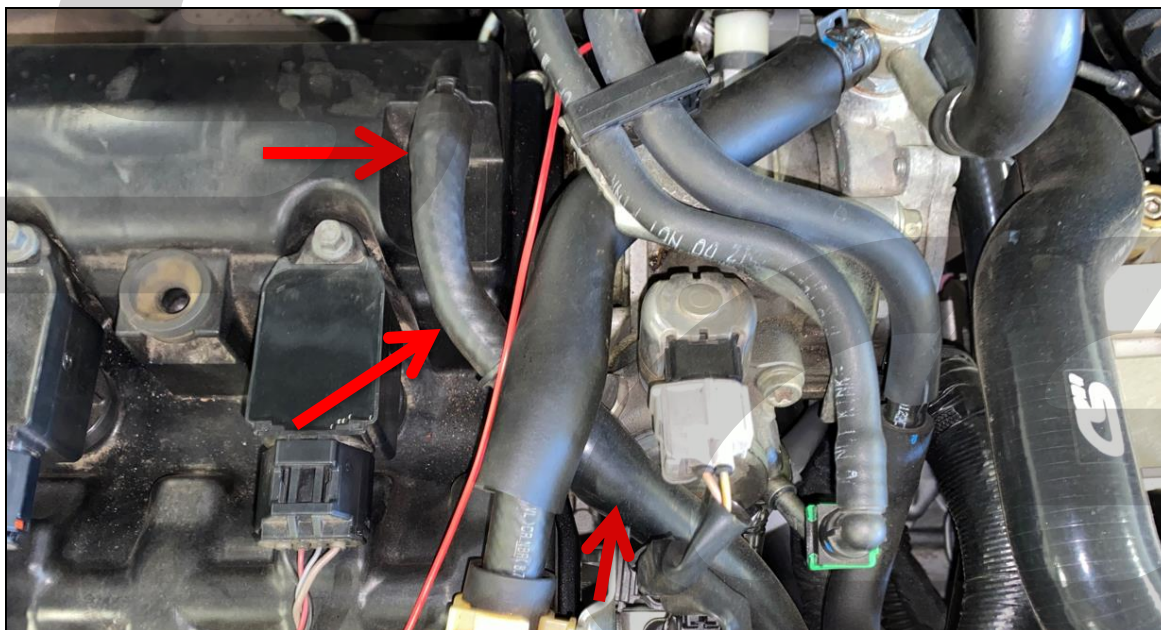

Figure 5e
- l) **At the top of the engine, install the supplied smaller hose & reducer fitting onto the valve cover port.** Shown in **Figure 5e**.